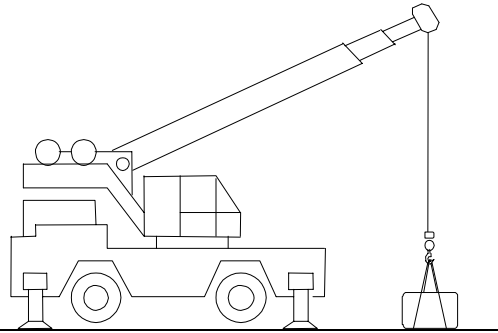

Figure 11
6. Leaving the test weight on the ground, lift the rigging, letting it hang slack from the hook (Fig. 11).